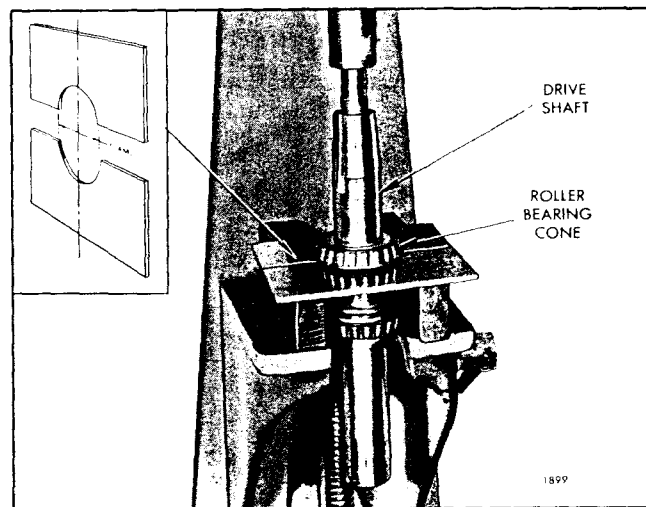

Fig. 11 - Removing Roller Bearing Cone from Clutch Drive Shaft
1. Place two split plates (inset in Fig. 11) between the bearing cones; then support the clutch drive shaft and
split plates on two steel supports on the bed of the arbor press as shown in Fig. 11.